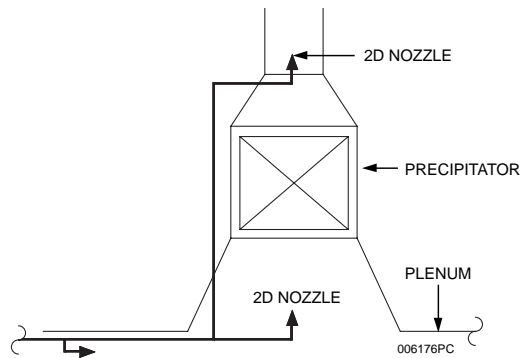

Figure 3-1d
**Electrostatic Precipitator** – Ducts utilizing electrostatic precipitators must be protected above and below the unit. Standard duct nozzles are used in this application. See Figure 3-1d.